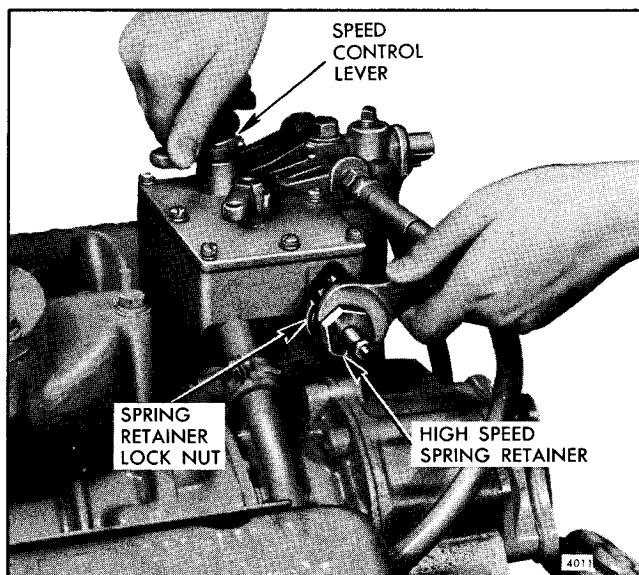

Fig. 4 - Adjusting Maximum No-Load Engine Speed
2. With the engine at operating temperature and no-load on the engine, place the speed control lever in the maximum speed position. Turn the high speed spring retainer in (Fig. 4) until the engine is operating at the recommended no-load speed. The best method of determining the engine rpm is with a hand tachometer.